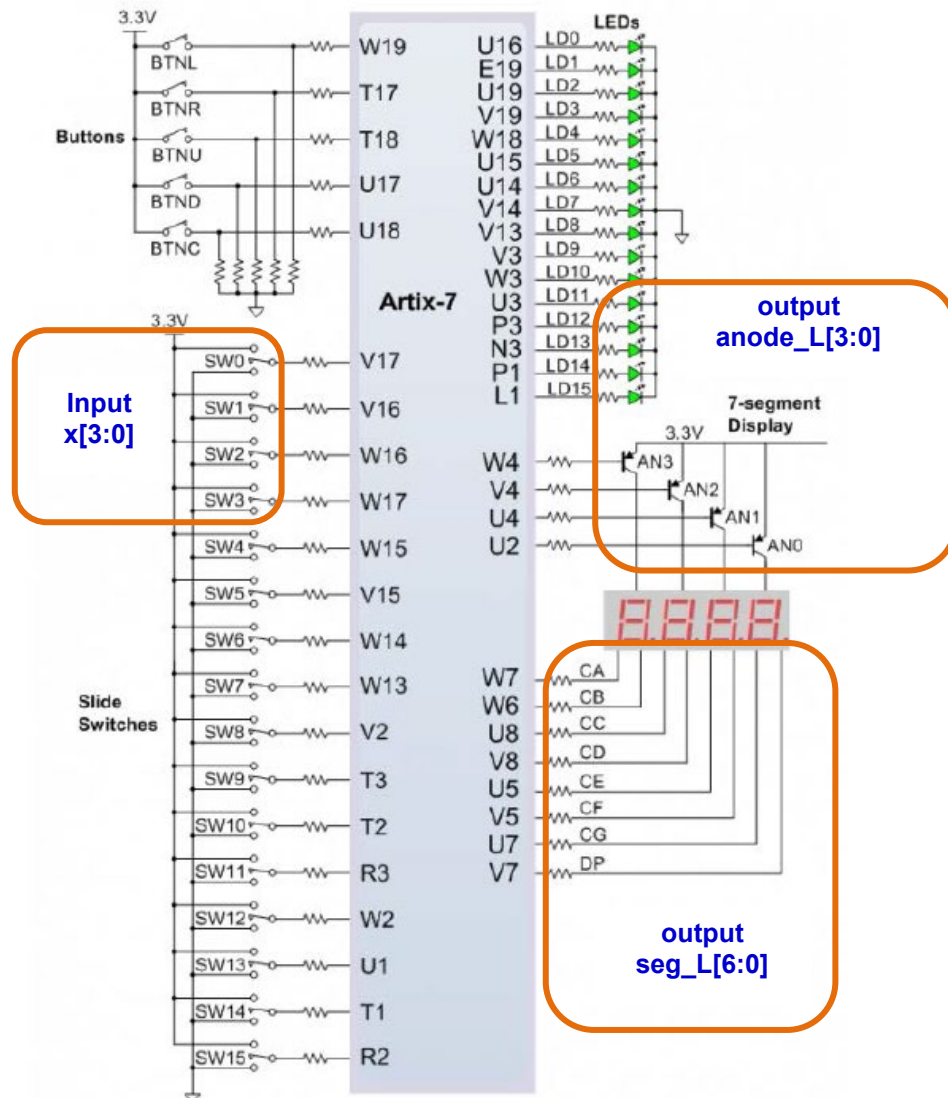
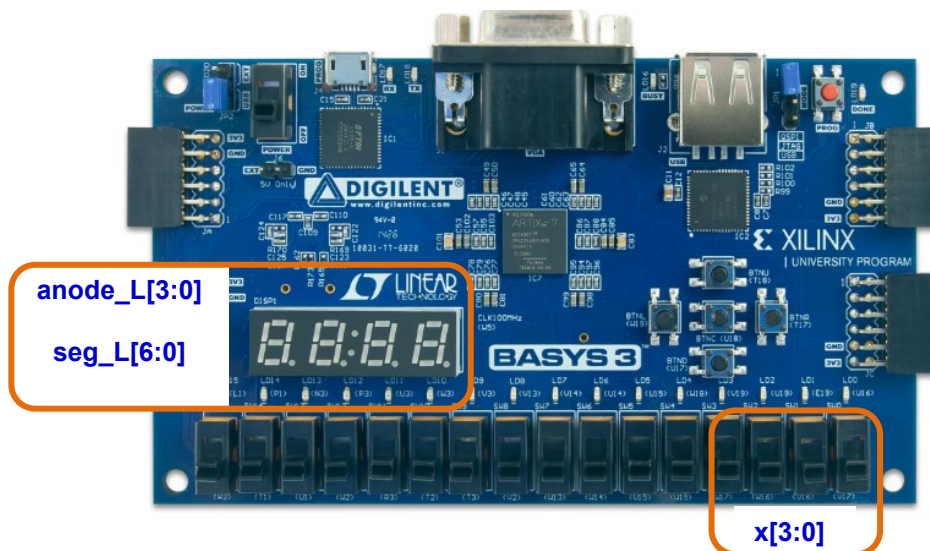

Figure 4: Basys3 basic input/output (I/O) schematic (source: Ref 8.4)
Figure 5: Basys3 board physical layout (source: Ref 8.4)
- 5.4.3 Figure 4 shows the I/O schematic diagram and Figure 5 shows the physical layout of the Basys3 board. The I/O mappings specified by *vsevensseg.xdc* are indicated in these figures.
- 5.5.1 In section 5.4, the two digits that are lighted up always display the same value. This is because the digits share the same value of CA-CG (mapped to seg_L in Figure 4). However, Figure 4 also shows that the two digits can be turned on or off separately by AN1 and AN0.